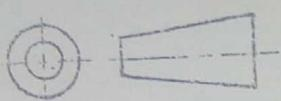

Figure 1
1.1 Write down the drawing conventional representation given by figures 1, 2, 3, and 4 shown below. (4 marks)